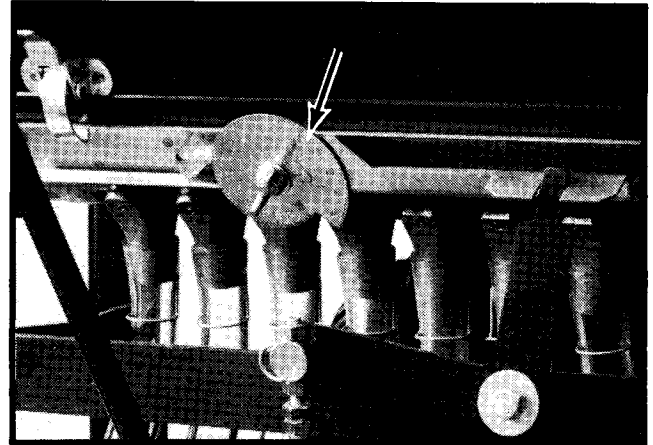

Figure 7. Feed Control Cam
3. Set the feed control cam (See Figure 7) on the hopper according to the "Seed Feed Chart" located inside the hopper. Fill the hopper with seed.